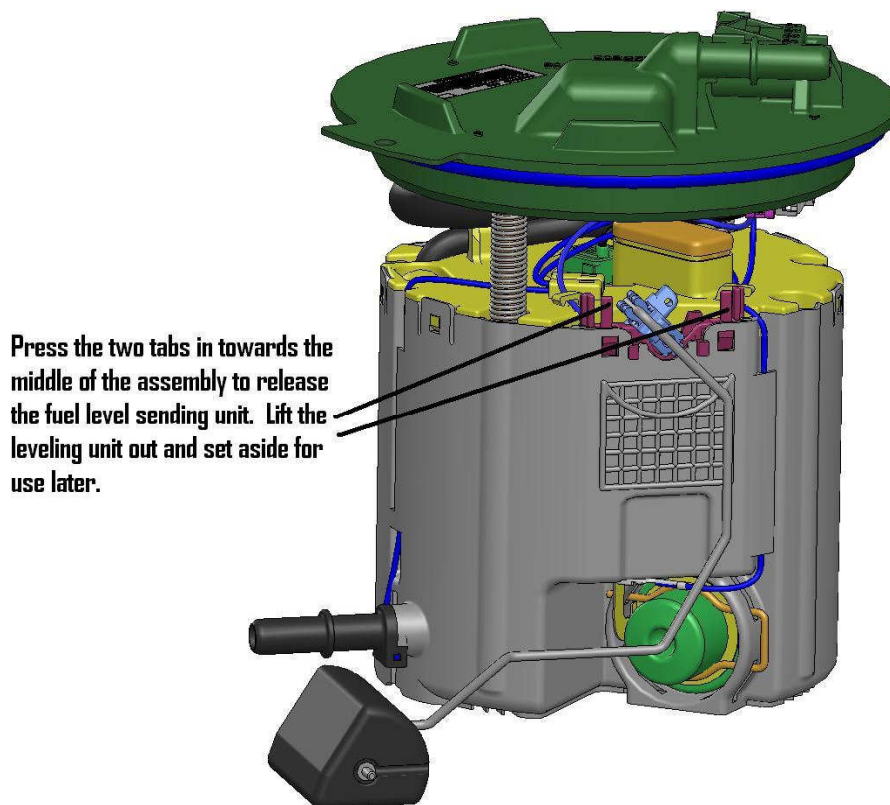

FIGURE 1-4
13. With the fuel pump assembly removed from the tank, remove the fuel level sensor. **FIGURE 1-4**